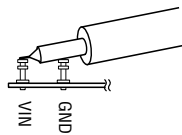

Figure 2. Measuring Input or Output Ripple
**NOTE:** When measuring the input or output voltage ripple, care must be taken to avoid a long ground lead on the oscilloscope probe. Measure the input or output voltage ripple by touching the probe tip directly across the  $V_{in}$  or  $V_{out}$  and GND terminals. See Figure 2 for proper scope probe technique.